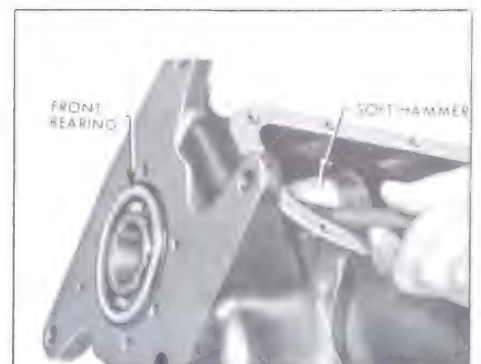

Figure 4-87—Removing Main Drive Gear Bearing
17. From inside case, tap out front bearing and snap ring. See Figure 4-87.